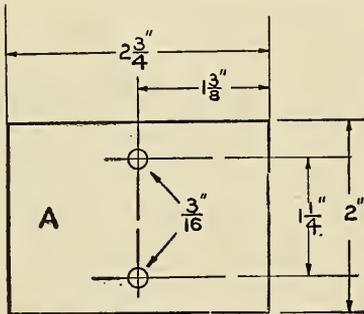
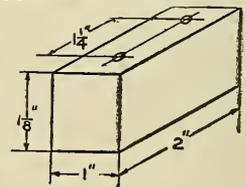

FIG. 62
FIG. 65
construct. This should be mounted on the top of the cage and arranged so that it can be moved back and forth over the entire length of the winding. Cut from some hard wood two pieces one inch wide, one inch thick and 14 inches long as supports for the sliding contact. Mount them in the two notches in the top of the end pieces. Place a piece of 1-32-inch brass or copper one inch wide and 14 inches long on one side of one of these pieces so that it will be on the underside when the wooden strip is mounted. Decrease the thickness of the wooden piece an amount equal to the thickness of the brass strip. Now cut from some 1-16-inch brass two pieces (A) and (B) as shown in Figs. 62 and 63 and drill the holes as indicated. Bend (A) into the form shown in Fig. 64. Cut a block of wood with dimensions given in Fig. 65 as a handle to be used in operating the sliding contact, and give it the form shown in Fig.